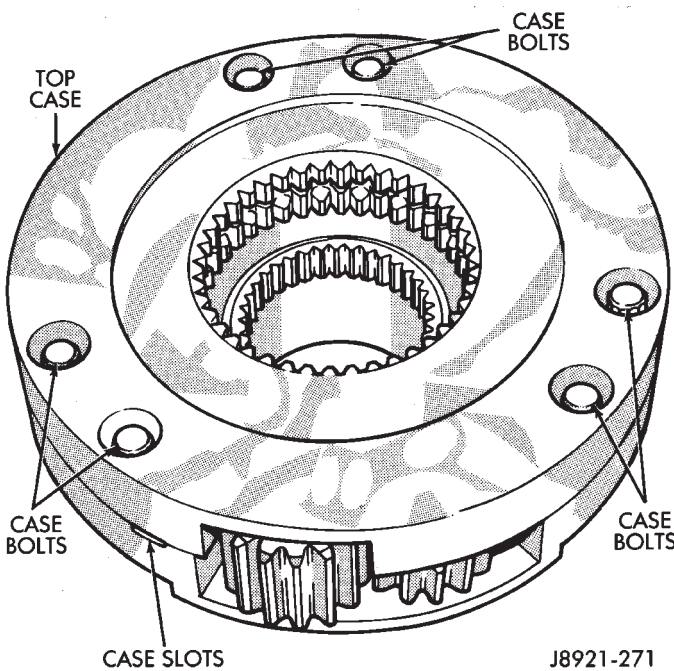

Fig. 39 Separating Differential Case Halves
- (48) Remove the oil seals from the rear retainer, extension housing, oil pump and case halves.
- (49) Mark differential case halves for reference.
- (50) Remove differential case bolts and separate top case from bottom case. Use slots in case halves to pry them apart (Fig. 39).